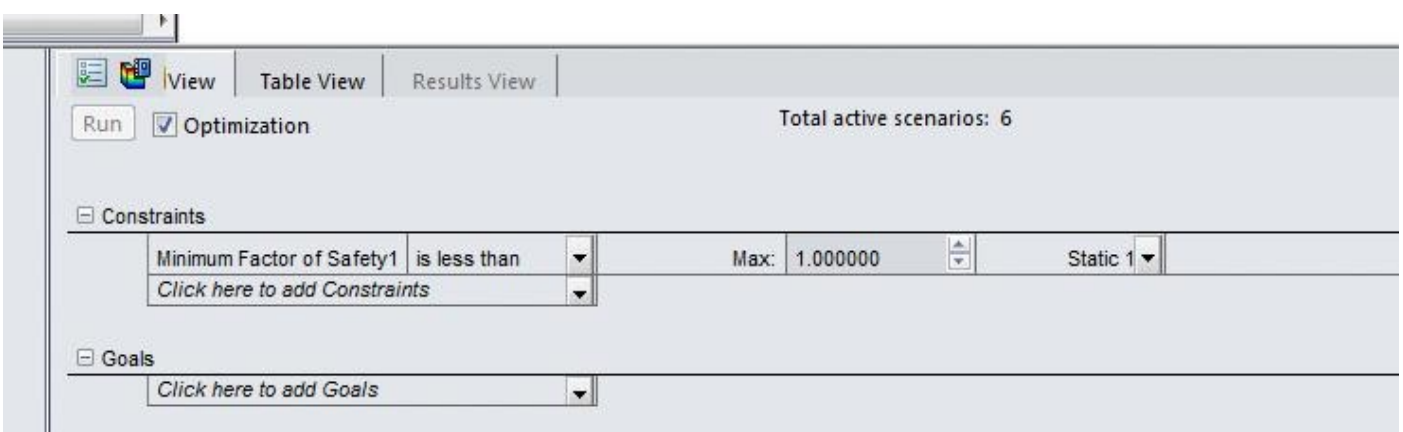

Figure-25. Factor of safety in Design Study pane
- Click on the **OK** button from the **Sensor PropertyManager** to add the **Factor of Safety** constraint. The constraint will be added in the **Design Study** pane; refer to Figure-25.